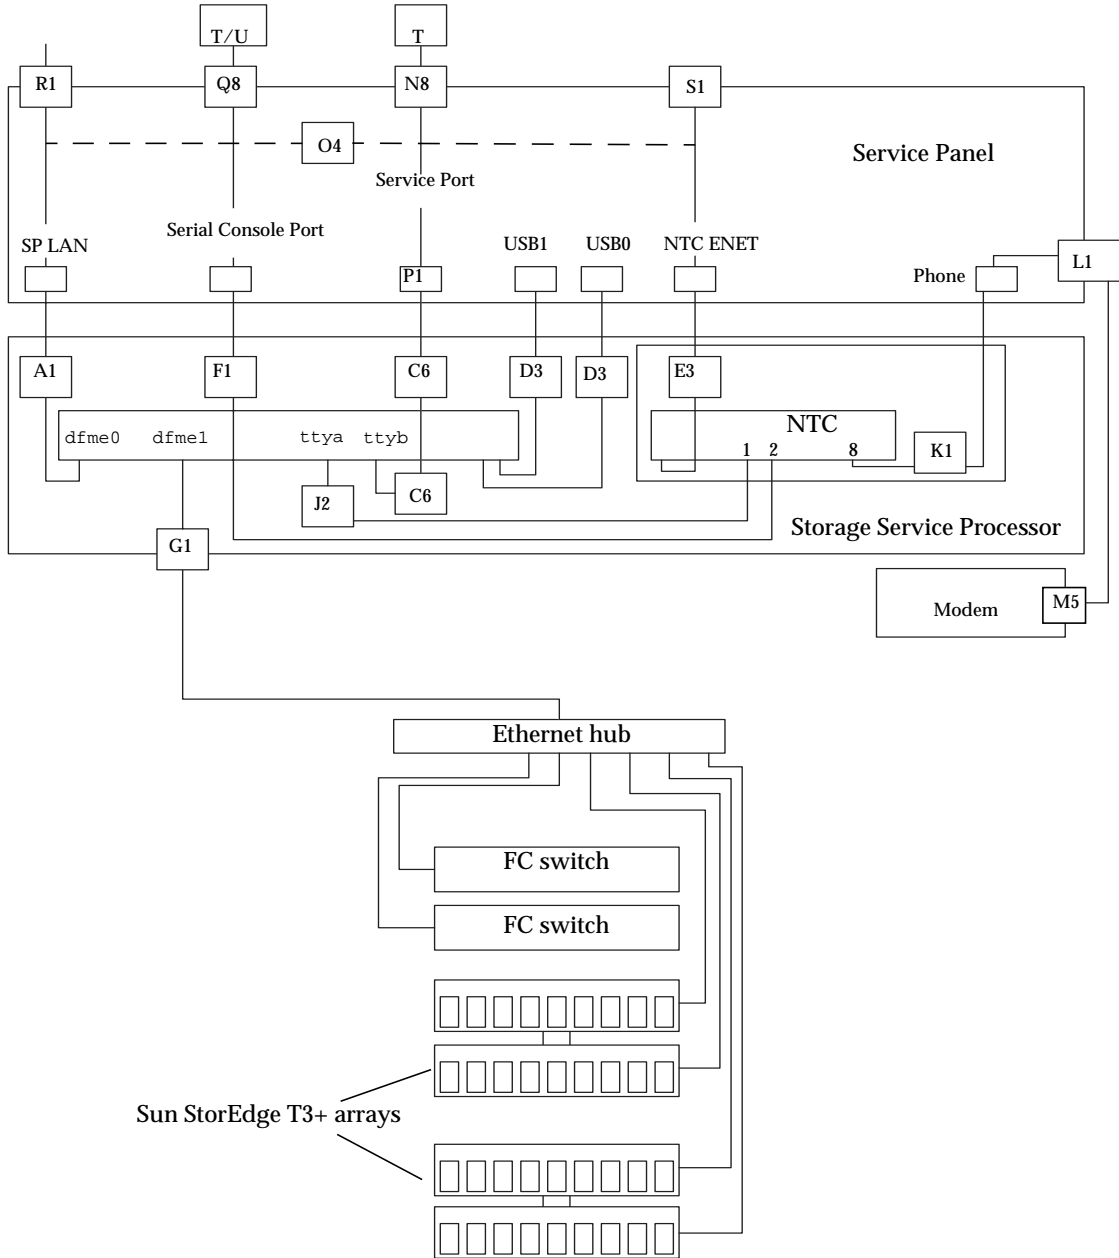

FIGURE 11-1 Storage Service Processor Service Panel Connections
FIGURE 11-1 shows the service panel and its connections to the Storage Service Processor. Details about the each connection is provided in TABLE 11-2 and TABLE 11-3.
3. Identify the location of each cable on the inside of the service panel through the placement shown in FIGURE 11-1, TABLE 11-2, and TABLE 11-3. Remove all cables from the inside of the service panel.
4. Close the service panel. Identify the location of each cable on the outside of the service panel by the placement shown in FIGURE 11-1, TABLE 11-2, and TABLE 11-3. Remove all cables from the outside of the service panel.